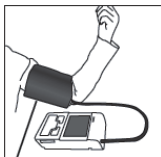

Fig. 4.4
- Apply the blood pressure cuff to the patient's arm as shown in Fig.4.4